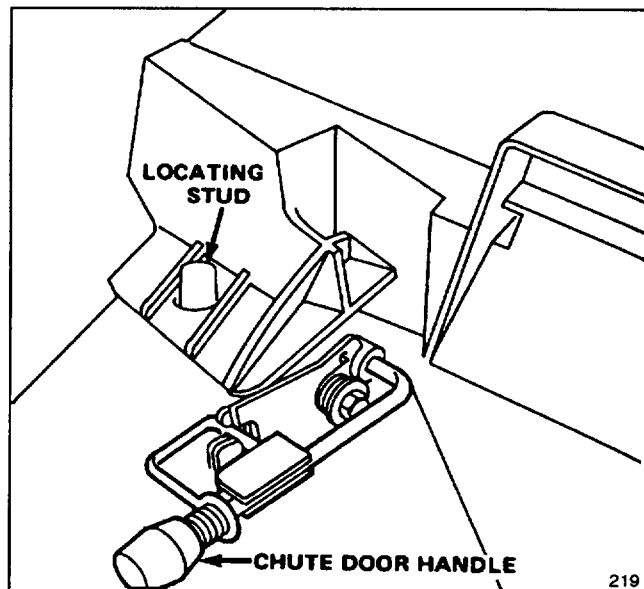

Figure 5
1. Assure chute door handle is fully forward and locked in place (Fig. 5).
2. Slide guide hole in bag door onto locking stud on mower housing (Fig. 5); then set rear of bag frame onto support rod.